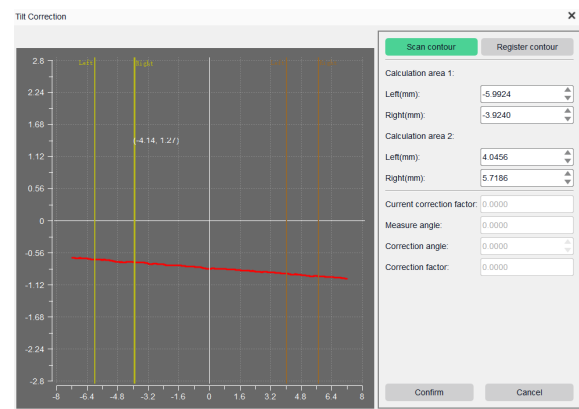

Figure 3.4.7 Drawing the Calculation Region
- 3 After obtaining the contour data, drag within the contour map interface or enter values on the right to adjust the position and width of Left and Right for Calculation Areas 1 and 2, as shown in Figure 3.4.7. Make the drawn calculation areas as large as possible to capture more data for computation, resulting in a more pronounced correction effect.